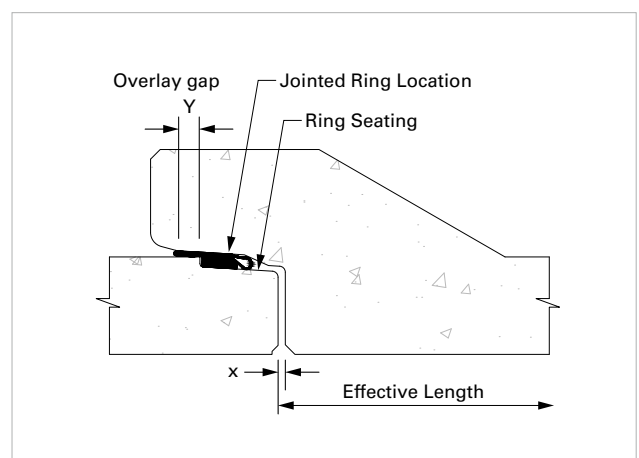

FIG. 8 Section through Pinnacle® sliding ring joint. Non-flexure condition.
- * Refer to figure 8
* Refer to figure 8
The recommended angular rotation of a pipe is the amount of joint deflection which is accommodated whilst maintaining concrete to concrete overlap "Y" (refer to Figure 8).